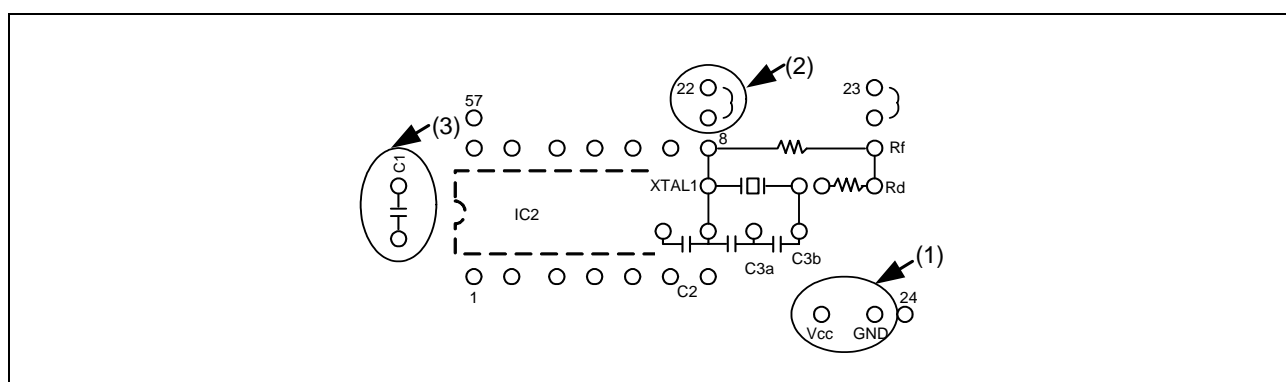

Figure 1 Connections when using the C1
When using the IC1, the following processing is necessary (see (1) to (3) in Figure 1).
- (1) Supply VCC and GND.
- (2) Connect the OUT pin to the XIN pin.
- (3) Install a bypass capacitor at the C1.